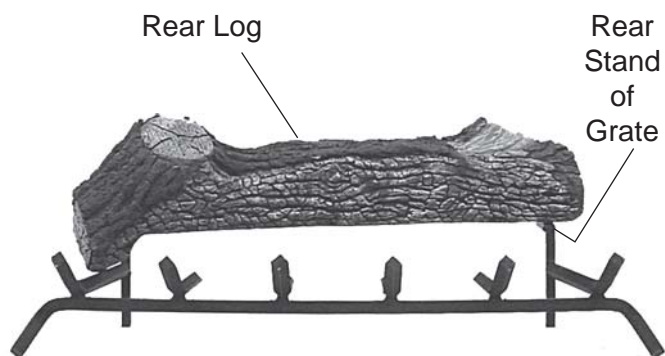

Figure 138 - Placing Rear Log #1 on Back Grate
2. Place Rear Log #1 on back of grate. Left side should fit on grate in front of rear stand. Right side goes on the rear stand of grate. *See Figure 138.*